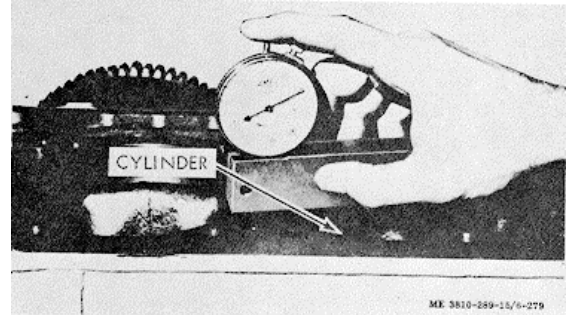

Figure 3-270. Cylinder liner counterbore inspection.
(1) Inspect liner counterbore depth in cylinder block at four equidistant points, using ST-547 Gage Block, figure 3-270: "zero" indicator before taking measurements.